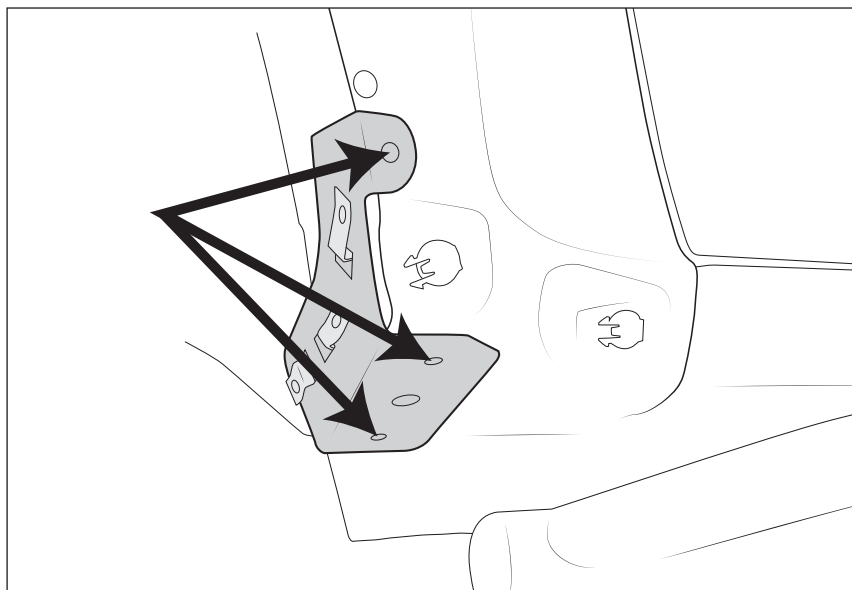

Figure 4
3. Using the bracket, mark the three hole locations on the sheet metal (fig. 4).